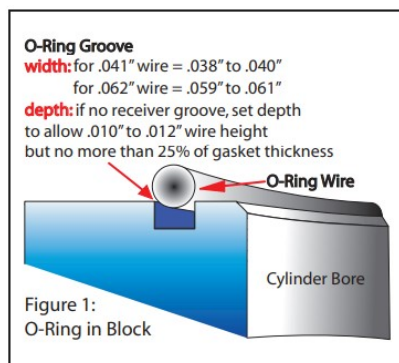

Figure 2: "Figure 8" O-Ring Example
5. If the combustion chamber or bore is so large that the o-rings will be placed less than .100" apart between cylinders, it is advisable to use a "figure 8" pattern for o-rings (SEE FIGURE 2 BELOW). This allows for more even clamp load over the entire head surface.